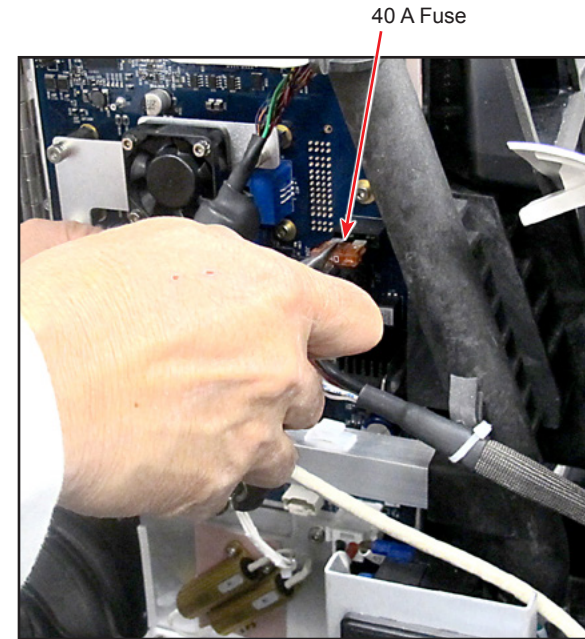

Figure 3-35 40 A fuse on MFIO PCB
- 32.3 Remove 40 A fuse from MFIO PCB (see Figure 3-35).
- 33.3 Remove 40 A fuse from MFIO PCB (see Figure 3-35).